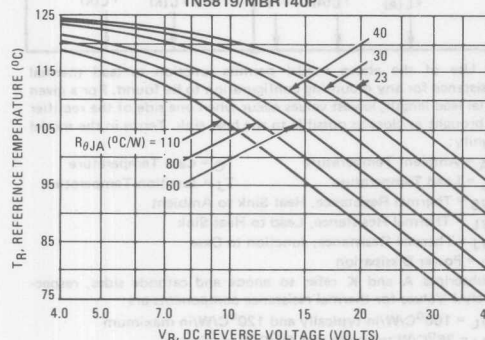

FIGURE 2 — MAXIMUM REFERENCE TEMPERATURE
Step 2. Find T_R from Figure 2. Read $T_R = 109^\circ\text{C}$ @ $V_R = 9.2 \text{ V}$ and $R_{\theta JA} = 80^\circ\text{C/W}$.